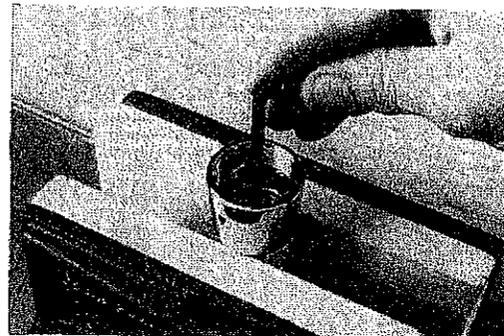

Fig. 13A
18a. Secure the swivel in a padded vise, with the open end of the piston cap facing up. (See fig. 13A.) Examine the swivel retainer(34) to determine whether it requires the use of a 3/16" hex-drive socket or an 11/16" nut-drive socket. Install the appropriate tool onto a socket wrench.